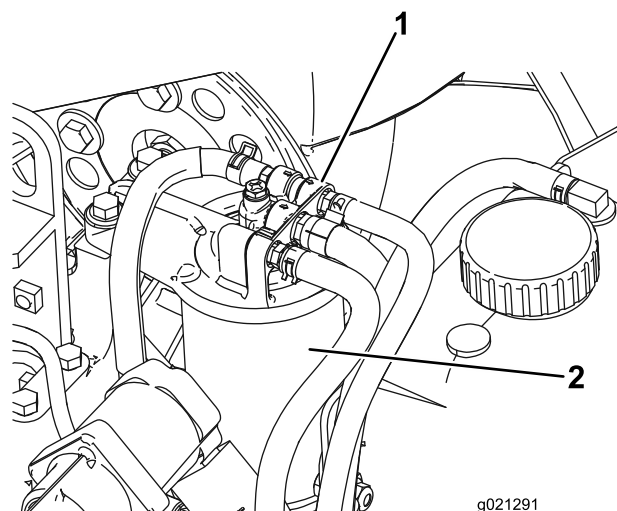

Figure 78
1. Clean the area around the fuel-filter head (Figure 78).
2. Remove the filter and clean the filter head mounting surface (Figure 78).